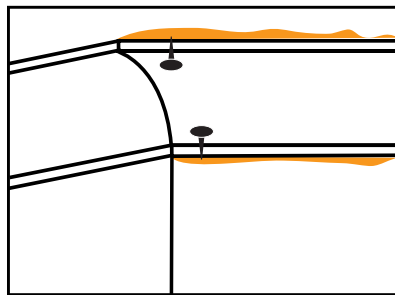

FIGURE 62 Position Cornice
- Press the cornice into place and if necessary hold with temporary nails in the wall and ceiling along the edges of the cornice [Figure 62]